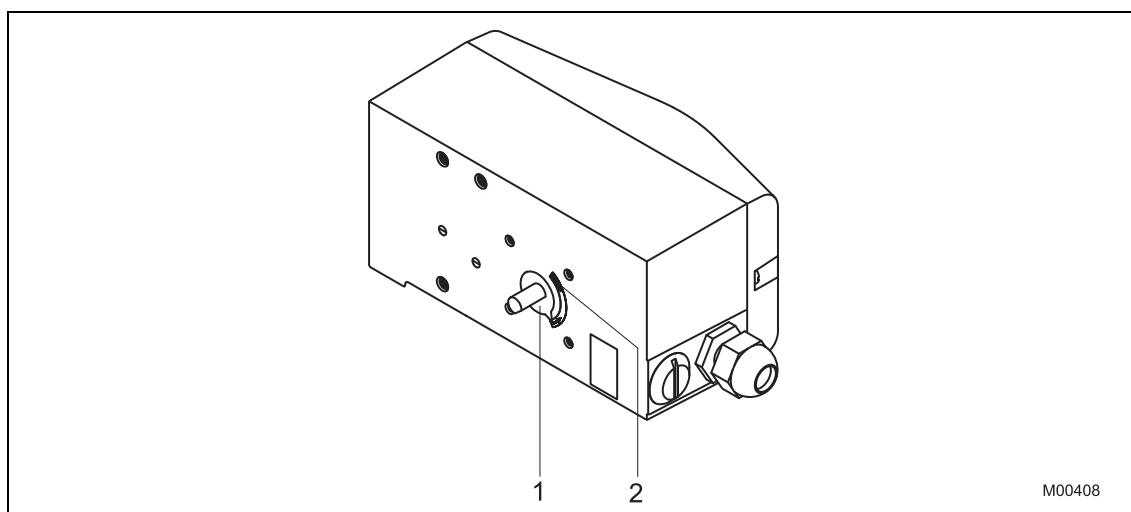

Fig. 1: Operating range
- Based on the mounting position as well as the home position and rotational direction of the actuator, determine in which position the feedback shaft (1) for the positioner must be pre-adjusted and in which position the adapter (2) must be placed to enable the positioner to travel within the proper range (the arrow on the rear of the device must travel within the admissible range, see Fig. 1)
- Place the adapter in the proper position on the feedback shaft and fasten with set screws (3). One of the set screws must be locked in place on the flat side of the feedback shaft